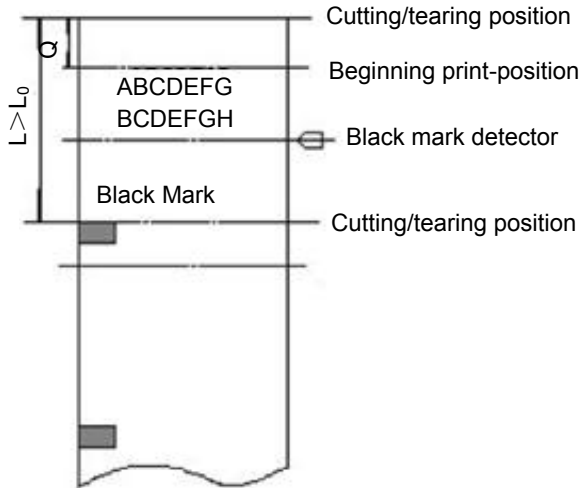

Figure 7-4
- (2) When the distance L between the cutting/tearing position and the black mark position is greater than the inherent mechanical value L_0 of the printer (shown as figure 7-4), the calculation of cutting/tearing position offset is shown as follows: